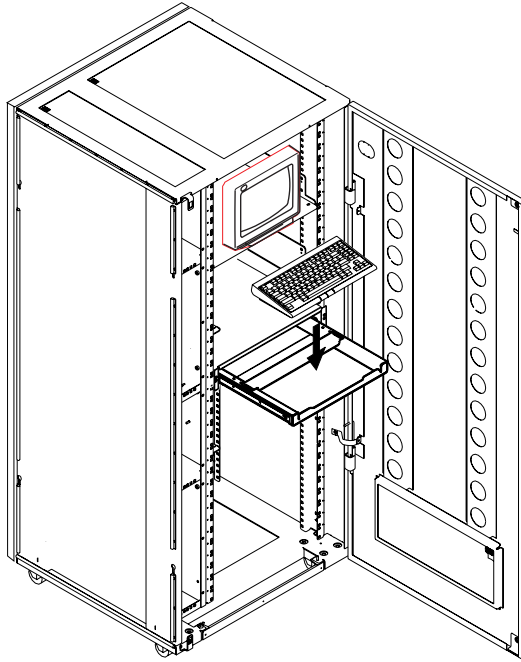

Figure 1-9. Installing the Keyboard
15. Open the drawer and install the keyboard as shown in Figure 1-9 on page 1-14.